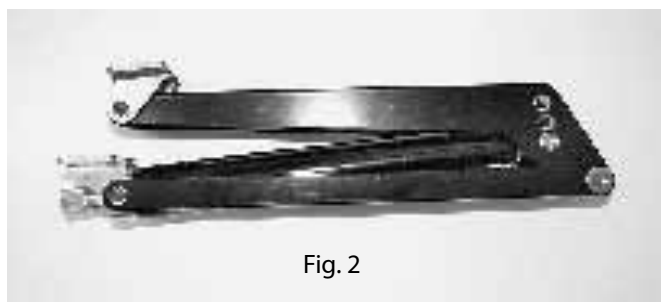
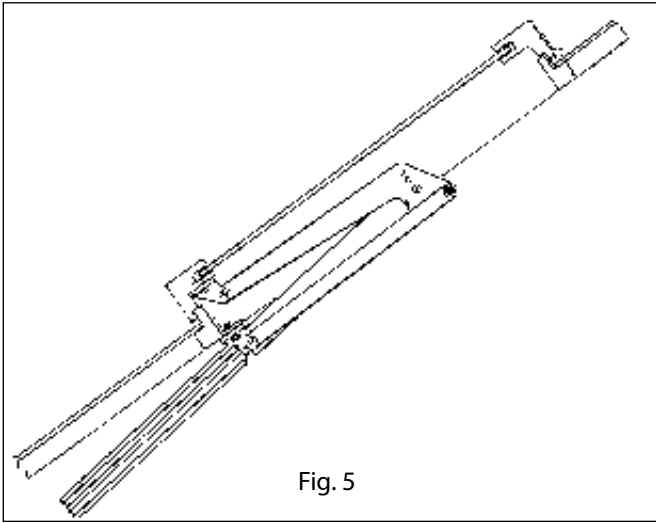

Fig. 2
Fig. 5
I at the wall / outside the vent-opening: see fig. 2+5
- .1 Firstly you will have to choose in which direction you want the spring/shockabsorber – and later the cylinder- to face (see fig. 5+6). If it does not by delivery face in the desired direction, then you yourself can undo it and turn it a 180° (see fig. 2 + 3 + 4) before refastening it.
- .4 Turn the reliefbolt (relieves the springload during installation) until the arms all by themselves stay in the desired position for being fastened. Now the brackets can be fastened to the frame and the sill (see fig. 5 + 6), while the window or the lid is kept closed. Notice : the arms closest to the window should be parallel to it (see fig 5 + 6).